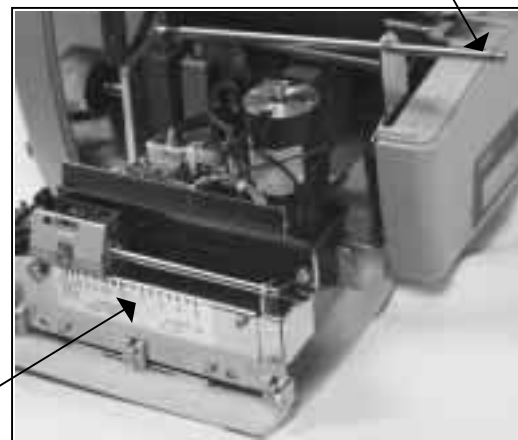

Fig. 6-27
3.	Unscrew rod and remove from unit. Pull out cutter head. Fig.6-27
4.	Remove (2) screws on the underside of the printer base which attaches to the motor shield. Lift out the shield.